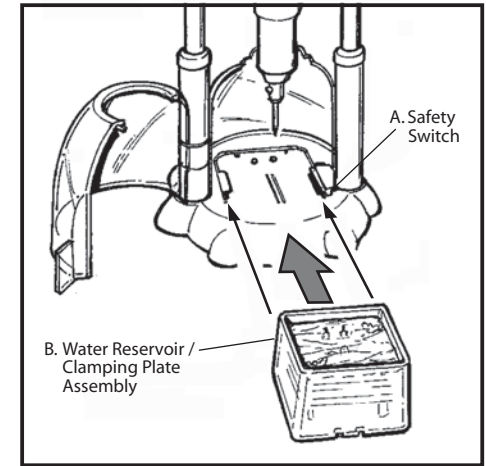

Figure 4 : Water Reservoir Slide-in Procedure
2. Slide the Water Reservoir /Clamping Plate Assembly (Fig. 4, B) forward to release it.
12. Slide the Clamping Plate/Water Reservoir Assembly back into the ROCK DRILLER (see Fig. 4) and close the Containment Chamber Door until it snaps into place, which automatically activates the Safety Switch (Fig. 4, A).